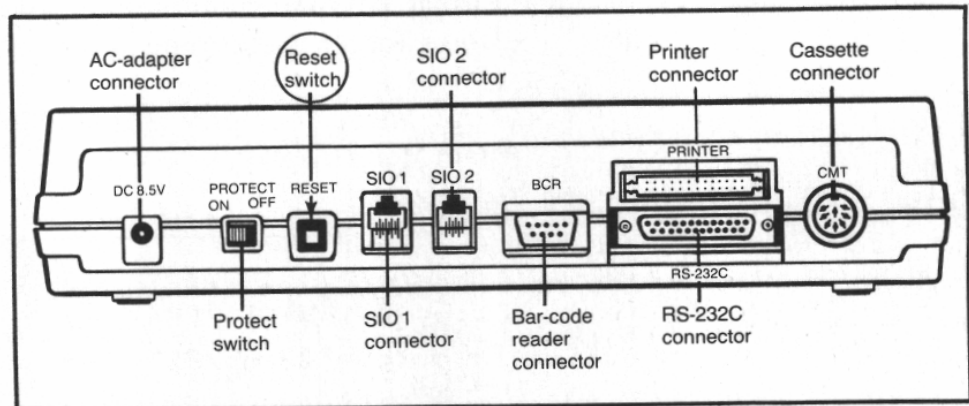

Fig. 1-4 The "Reset" Switch
1. A precautionary suggestion is to place a piece of masking tape over the **Reset** switch to prevent a catastrophic data "wipe-out" (Figure 1-4).